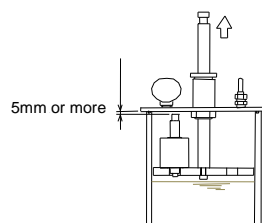
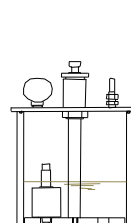

Figure 5
Figure 6
13. Cycle the UOF-2 vacuum fill tank. - 5 minutes ON (as figure 5), 5 minutes OFF (as figure 6) and 5 minutes OFF (as figure 6).
18. Wipe the pulse unit dry and clean before putting the pulse unit into the UOF-2 vacuum fill tank again. Repeat the procedures #12 -15, but the guide plate position remains at the bottom at Procedure 13 at this 2nd time (as figure 6).